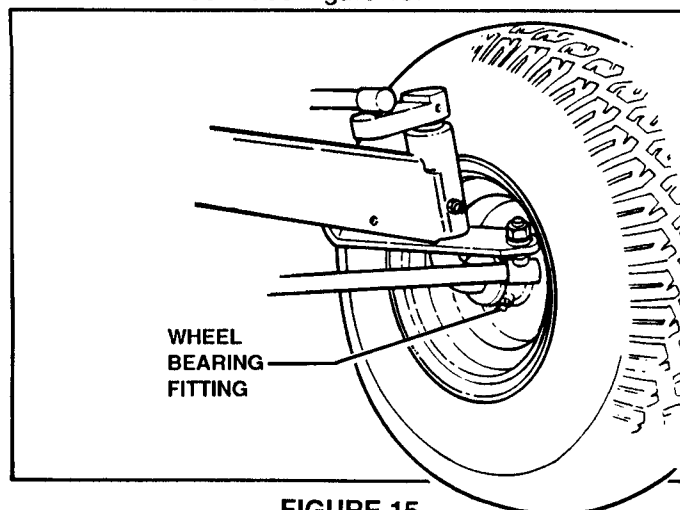

FIGURE 15
- FRONT WHEEL BEARINGS: Lubricate bearings through the fitting on hub of each front wheel. See Figure 15.